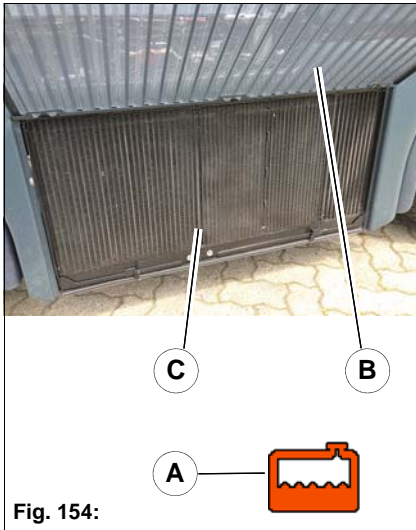

Fig. 154:
A slow increase in the coolant temperature is a sign that the cooling system is contaminated. If the coolant temperature is too high, it is signalled by the warning symbol **Fig. 154-A** in the multifunction display. Check the cooler at regular intervals for external contamination and clean as required. Maintenance intervals according to maintenance plan, see page 167.
2. Open the radiator cover **Fig. 154-B**, see page 182.
3. Clean the cooling fins **Fig. 154-C** of the combination cooler located behind with compressed air or water jet.
3. Press the cyclone separator **Fig. 154-C** to the side and remove the dust particles separated from the filter housing.